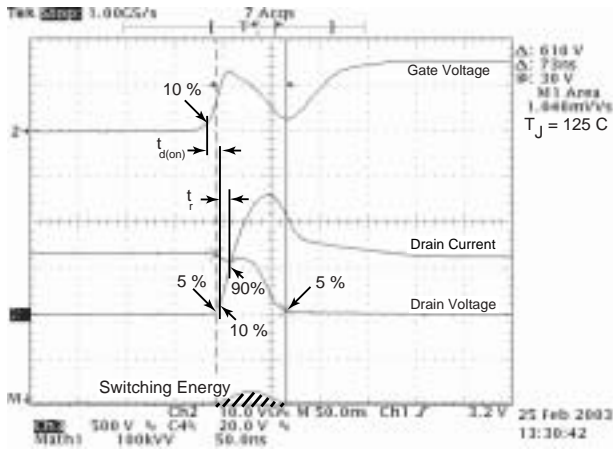

Figure 18, Turn-on Switching Waveforms and Definitions
① Repetitive Rating: Pulse width limited by maximum junction temperature
② Pulse Test: Pulse width < 380  $\mu s$ , Duty Cycle < 2%
③ See MIL-STD-750 Method 3471
④ Starting  $T_j = +25^\circ C$ ,  $L = 11.34mH$ ,  $R_G = 25\Omega$ , Peak  $I_L = 21A$
⑤  $dv/dt$  numbers reflect the limitations of the test circuit rather than the device itself.  $I_S \leq -I_D 21A$   $di/dt \leq 700A/\mu s$   $V_R \leq V_{DSS}$   $T_j \leq 150^\circ C$
⑥  $E_{on}$  includes diode reverse recovery. See figures 18, 20.